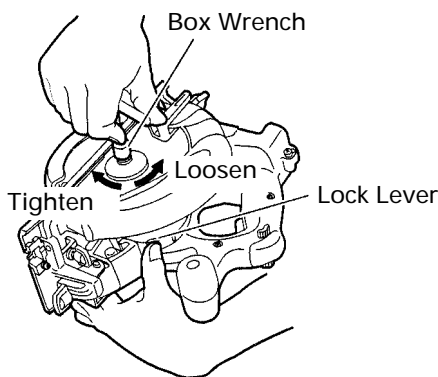
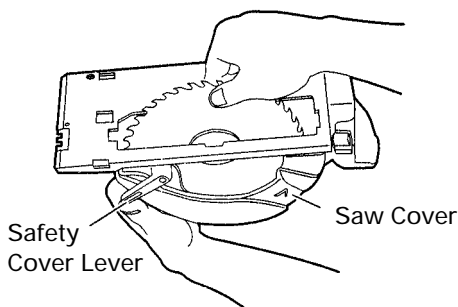

Fig. 18
Fig. 19
- (1) Set the cutting volume at maximum, and place the Circular Saw as shown in Fig. 18.
- (2) Depress the lock lever, lock the spindle, and remove the hexagonal-head bolt and washer(B1) with the box wrench.
- (3) While holding the safety cover lever to keep the safety cover fully retracted into the saw cover, remove the saw blade. (Fig. 19)